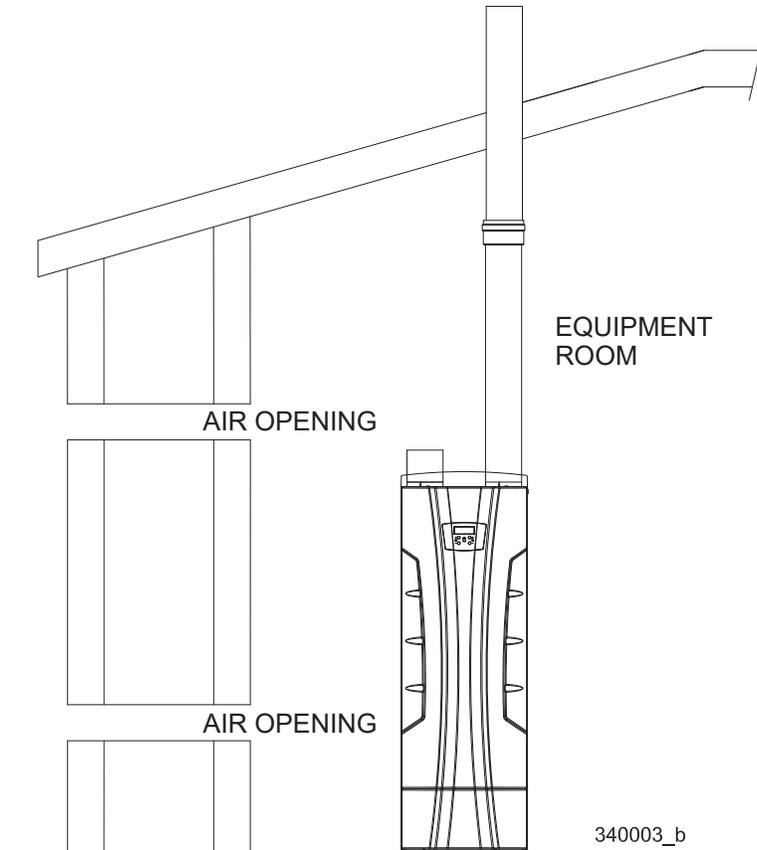

Figure 5-2 - Combustion Air through Ducts
2.- If combustion and ventilation air is taken from the outdoors using a duct to deliver the air to the equipment room, each of the two openings should be sized based on a minimum free area of one square inch per 2000 Btu/hr (11 cm² per kW) of input (see Fig. 5-2);